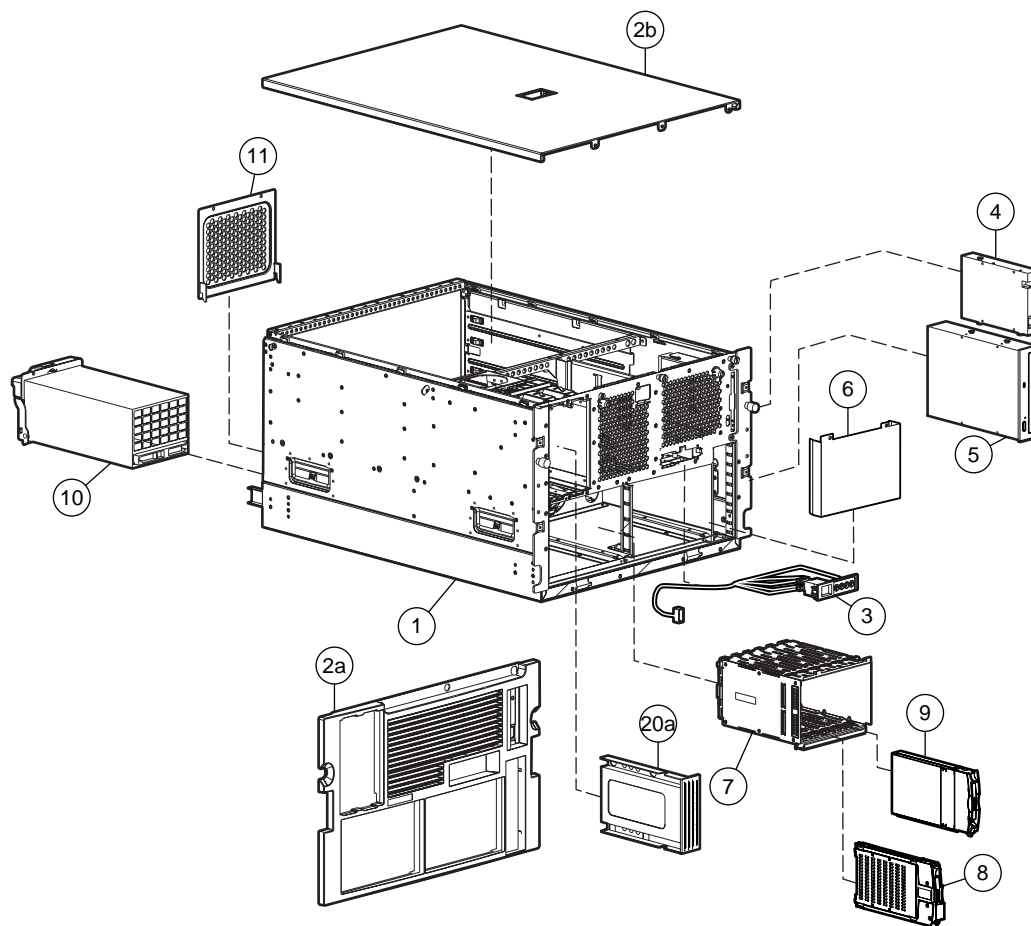
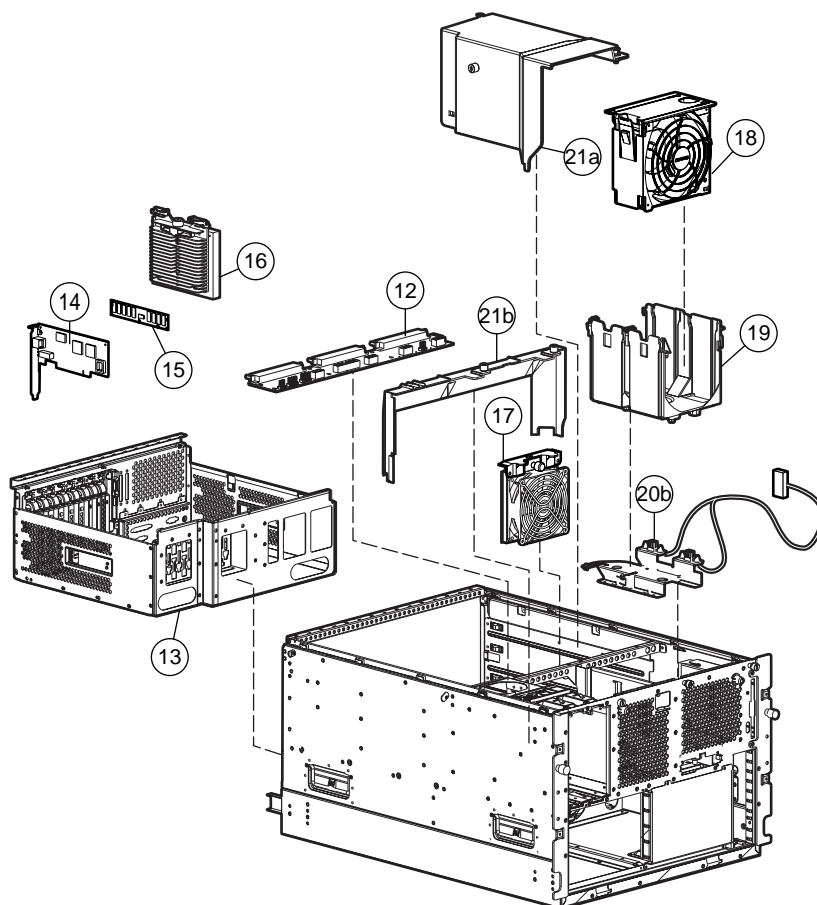

Figure 1-1. External components—exploded view
Figure 1-2. System components—exploded view
This chapter provides the illustrated parts breakdown and a spare parts list for Compaq *ProLiant*™ ML530 servers. To obtain information on names and part numbers of referenced spare parts, refer to Figure 1-1 and Table 1-1 for external components, and Figure 1-2 and Table 1-2 for system components.
a) Removable media bay blanking panel, shown in Figure 1-1 (maximum: 2 per unit)